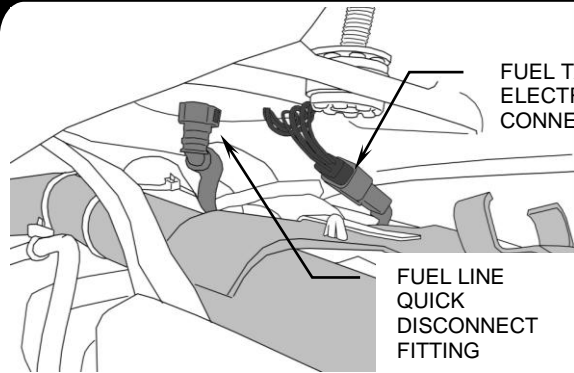
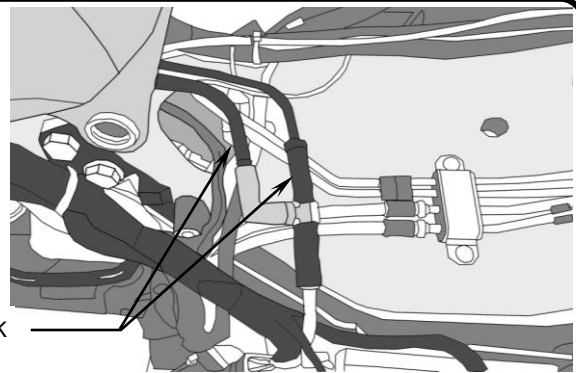

FIGURE 1
FIGURE 2
4. Prop rear of fuel tank up and disconnect quick release fuel coupling on bottom of tank, by pressing in green tabs on each side of coupler and pulling fuel coupling downward from tank, Figure 1. Be sure to place a shop rag under fuel line and perform installation in a well ventilated area. Disconnect the fuel tank electrical connector along bottom of fuel tank also, see Figure 1. Be sure to disconnect two vacuum lines from rear lower left corner of fuel tank, for tank removal, see Figure 2.